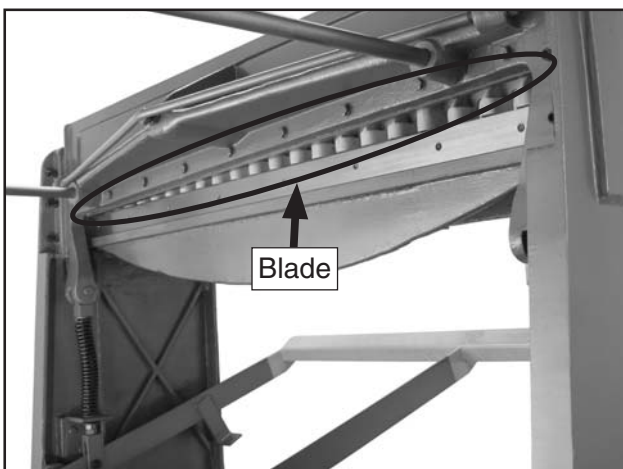

Figure 13. Blade lubrication.
- Shearing blades (**Figure 13**).